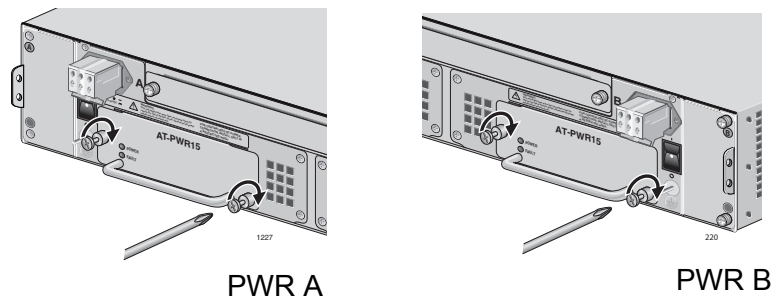

Figure 59. Securing the AT-PWR15 DC Power Supply
- Secure the AT-PWR15 module to the AT-CV5000 chassis by using a Phillips screwdriver to tighten the captive screws, as shown in Figure 59.